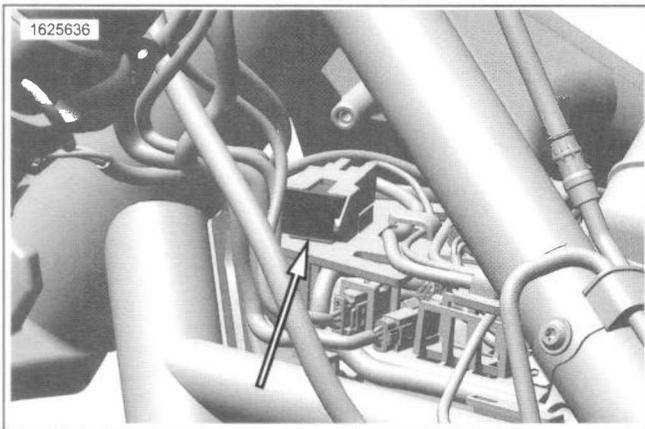

Figure 8-1. Main Fuse
3. See Figure 8-1. Remove main fuse.
1. See Figure 8-1. Install main fuse.